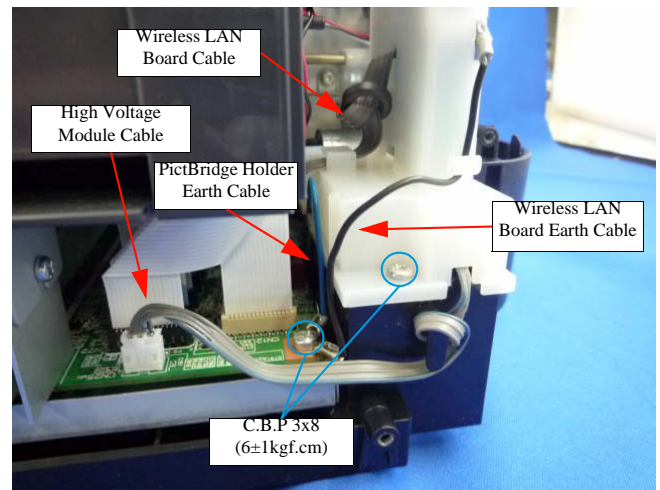

Figure 8-12. Remove the Wireless LAN Board Assy (1)
- Refer to Figure 8-12 for routing the cables.